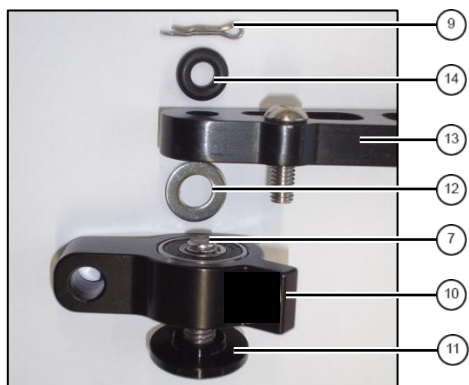

fig. 5: hinge block
5. Install hinge block ⑩ with bolt ⑦ and threadlock adhesive, bearing cover ⑪ and washer ⑫ at steerer arm ⑬ (see fig. 5). **Tightening torque 8Nm.**
6. Stick O-Ring ⑭ on bolt and install splint ⑨ (see fig. 5).